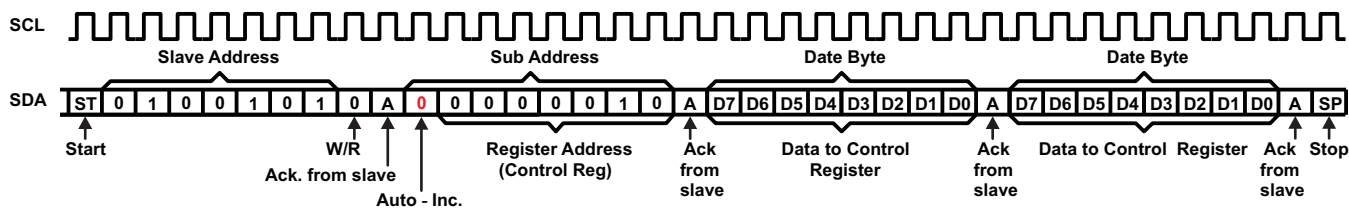

Figure 5. Repeated Data Write to a Single Register
Data is transmitted to the TSU5611 by sending the device slave address and setting the LSB to a logic 0 (see Figure 5 for device address). The command byte is sent after the address and determines which register receives the data that follows the command byte. The next byte is written to the specified register on the rising edge of the ACK clock pulse.
**Notes (Applicable to Figure 5–Figure 10):**